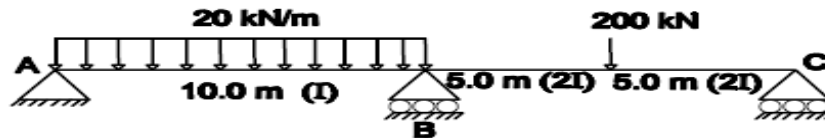

Figure 3
- 3 Analyse the continuous beam using force method treating the support reaction at 'C' as redundant [Figure.3]. Hence find the support reaction at A. Also Draw B.M.D